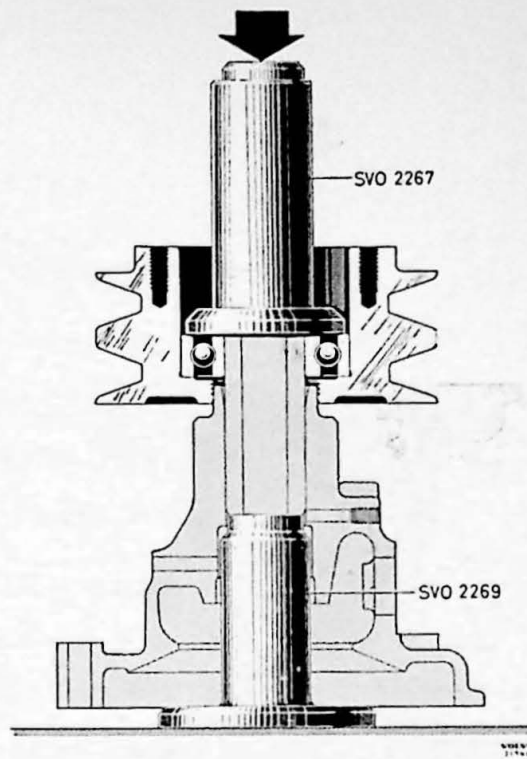

Fig. 1-138. Fitting pulley with bearing.
3. Place tool SVO 2269 in the place normally occupied by the impeller (see Fig. 1-138). Press tool SVO 2267 (see Fig. 1-138) on to the pulley with the rear bearing. Exert pressure until the pulley and bearing are correctly in position.